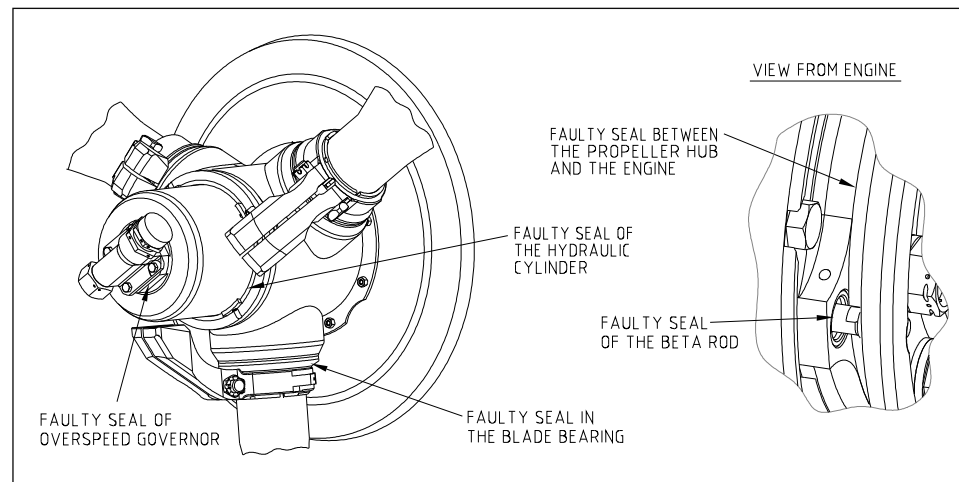

Figure 6-2 Potential sources of oil leakage (model V508 displayed)
- a) Oil leakage is usually caused by damaged seal. Inspect the propeller and identify source of leakage. Potential sources of oil leakage are displayed in figure 6-2.